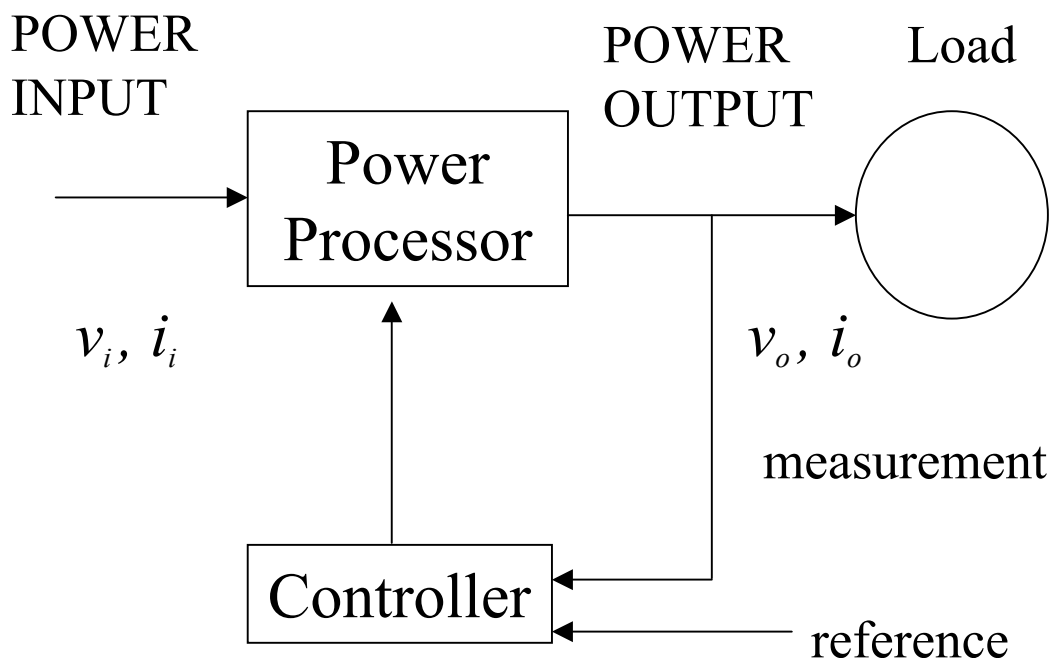

Figure 1
- Sometimes known as “Electronics Power Conversion” systems. Basic block diagram shown in Figure 1.